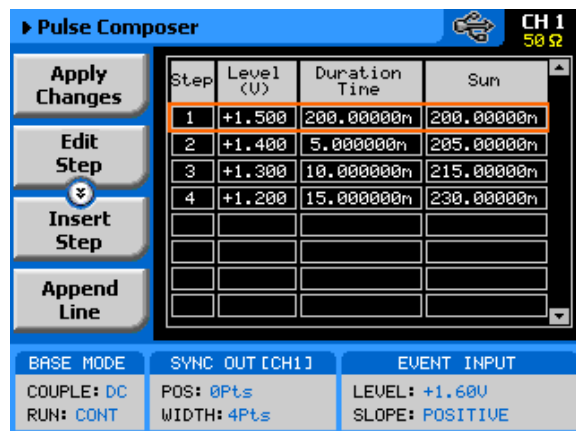

Figure 3-72: Pulse Composer Menu Example
3. Press the Pulse Composer soft key and observe the Pulse Composer editing fields as demonstrated in *Figure 3-72*.